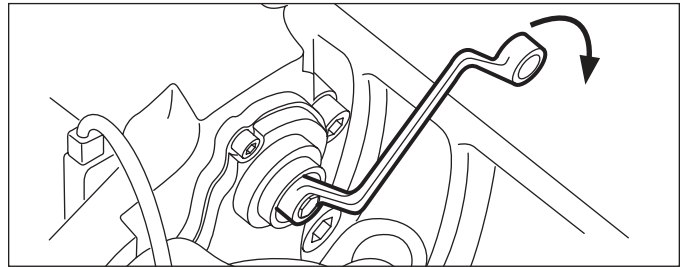

Figure 21 – Applying Moderate Applications of the Brakes: The Wrench Moves Clockwise as the Running Clearance is Diminished
4.2.3 Where the adjuster mechanism is able to be backed off normally, position a box-end wrench on the shear adapter so that it can turn freely clockwise without coming into contact with parts of the vehicle (See Figure 21). Make five to ten moderate applications of the brakes [at about 30 psi (2 Bar)], and observe that the box-end wrench or socket should turn clockwise in small increments.